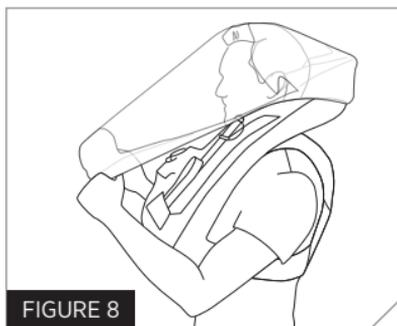

FIGURE 8
- Pull fabric down and around the edges of your inflated PFD (Fig. 8). (The hood ventilates from the window material at the sides of your face)